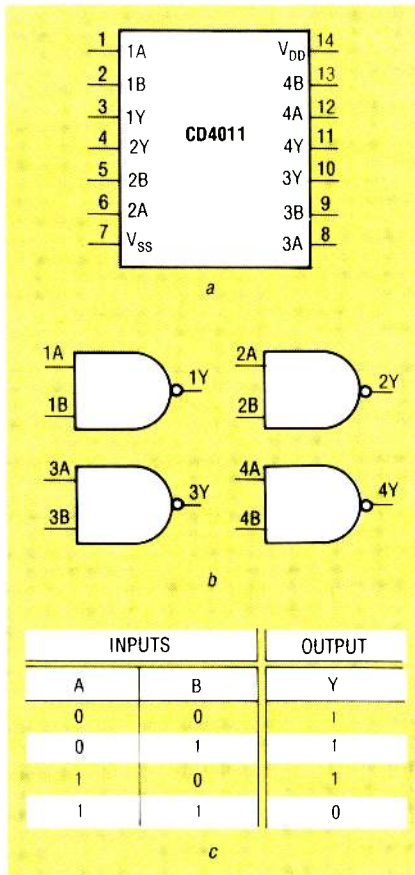

FIG. 1—IC SPECIFICATIONS. It takes a pinout (a), functional diagram (b), and a truth table (c) to fully specify an IC.
For example, Fig. 1 shows a connection diagram (a), function diagram (b), and truth table (c) for a 4011 CMOS quad two-input NAND gate. The connection diagram shows that the 4011 is a 14-pin IC with ground ( $V_{SS}$ ) at pin 7 and +V ( $V_{DD}$ ) at pin 14.
The other pins are labelled as well, but to find out what the labels mean, we must refer to the functional diagram (Fig. 1-b). Here we see four NAND gates, each with two inputs (A and B) and one output (Y). To find out how each gate works, we must examine the truth table (Fig. 1-c). For each gate, the output is high unless both inputs are high, in which case, the output is low.